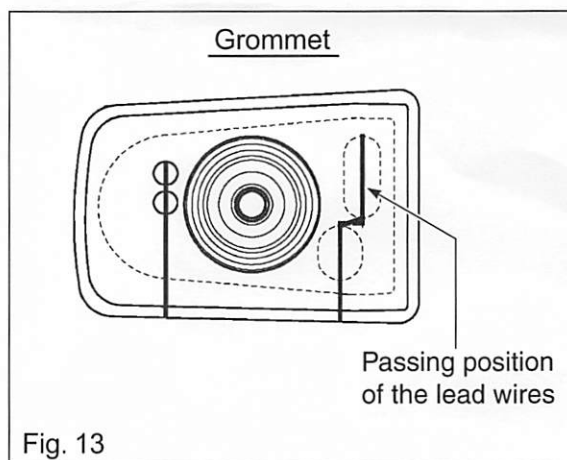

Fig. 13
18. Pass the receptacle lead wires to the grommet and clamp them to the tiller handle bracket in Fig. 13,14.